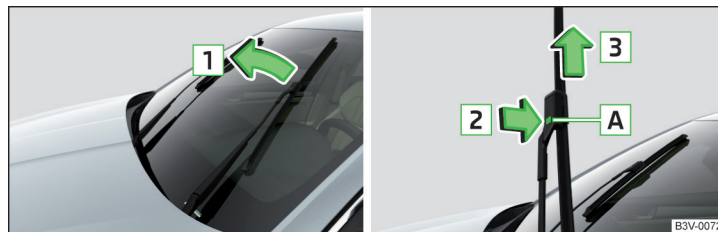

Fig. 264 Windscreen wiper blade
- › Lift the wiper arm from the windscreen in the direction of **1** » Fig. 264.